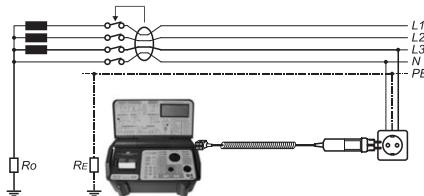

figure 6.11.1 Connection test lead
▶ Select the nominal fault current of the RCD (depending on the RCD to be tested) using the rotary switch "RCD nominal residual current" (5). It is of no importance, whether the rotary switch is in (x1) or (x5) position.
▶ Select the type of the RCD to be tested using the " S" key (4). Selection can be made between standard RCDs or time delayed RCDs. After having chosen 'selective RCD',  is displayed on the LCD.
- ▶ Connect the test leads to instrument, measurement connectors (17).
- ▶ Connect the test leads with object see figure 6.11.1 or 6.11.2.
- ▶ Switch on UNITEST EURO-EXPERT plus via switch "ON/OFF" (9).
- ▶ Set the measurement range switch (1) to function 'tRCD, VC' (4).
- ▶ For the display of the preset value of the contact voltage set the rotary switch "RCD nominal residual current" (5) on "VC(25/50 V)". The contact voltage will be shown on the display. In order to change the contact voltage limit use the keys  or .
- ▶ Set the nominal RCD fault current (depending on the RCD to be tested) using the rotary switch "RCD nominal residual current" (5). Selection should also be made of the trip current factor (x1) or (x5) by positioning the rotary switch to e.g. 30mA x5.
- ▶ Select the type of the RCD to be tested using the  key (4). Selection can be made between standard RCDs or time delayed RCDs. After having chosen 'time delayed RCD', "S" is displayed on the LCD.
- ▶ Connect the test leads with object see figure 6.11.1 or 6.11.2, page 40.
- ▶ Briefly press the key 'START' (2), the measurement will start.
▶ The "DISPLAY" key (30) is used to alternate between the trip time (tRCD) display and the contact voltage (Vc).
▶ If desired, repeat the test at negative half-wave. The phase position of the test current can be chosen by pressing the "START" key (2) twice. "180°" is displayed on the screen.
- ▶ Switch on UNITEST EURO-EXPERT plus via key "ON/OFF" (9).
- ▶ Set the measurement range switch (1) to function 'I Δ ' (5).
- ▶ Select the nominal fault current of the RCD (depending on the RCD to be tested) using the rotary switch "RCD nominal residual current" (5). It is of no importance, whether the rotary switch is in (x1) or (x5) position.
- ▶ Connect the test leads with object see figure 6.11.1 or 6.11.2, page40.
- ▶ Press the "START" key (2) the measurement is started. The test current is displayed on the LCD and is steadily increased until RCD trips.
- ▶ The "DISPLAY" key (30) is used to alternate between the display of the trip current (I_{Δ}), the trip time ($t(I_{\Delta})$), and the contact voltage ($V_C(I_{\Delta})$).
- ▶ If desired, repeat the test at negative half-wave. The phase position of the test current can be chosen by pressing the "START" key (2) twice. "180°" is displayed on the LCD.
- ▶ Turn the rotary dial to "Nominal trip current" (5) to set the nominal trip current of the RCD (depending on the RCD to be tested). It is of no importance whether the dial is set to position (x1) or (x5)..
- ▶ Connect the test leads with object see figure 6.11.1 oder 6.11.2.
- ▶ The "DISPLAY" key (30) is used to alternate between the previous test steps number, the trip time, and the contact voltage.